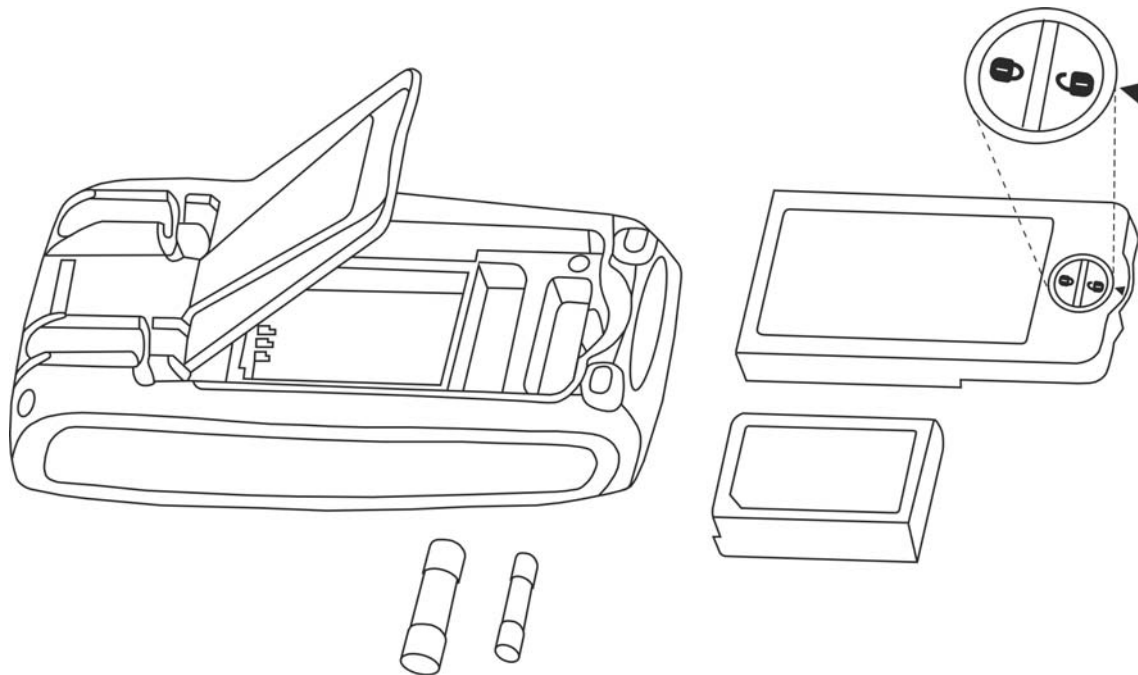

Fig. 34: Replacement of internal fuses
2. Turn the fastening screw of the battery compartment cover from position "I" to position "II" and remove it (see Fig. 34)